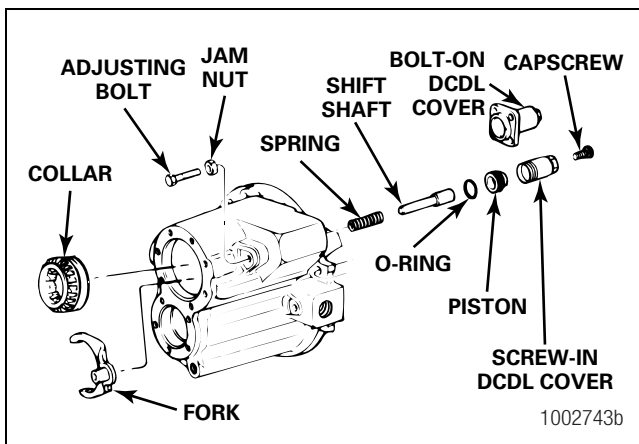

Figure 3.39
2. Remove the piston from the shift shaft. Figure 3.39.